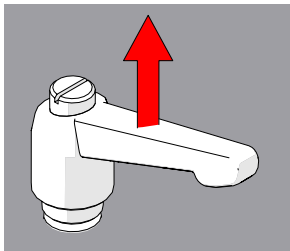

Fig. 26 - Pull ratchet handle
1. Pull the ratchet lever away from the base to which it is connected (Fig. 26).